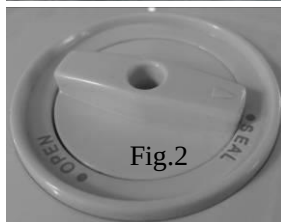

Fig.2
3. Place one end of the bag on top of the sealing strip, but do not insert it into the vacuum chamber – **Fig. 2.**
4. Press the cover down on both sides using both hands until click sounds are heard on both sides – Fig.2